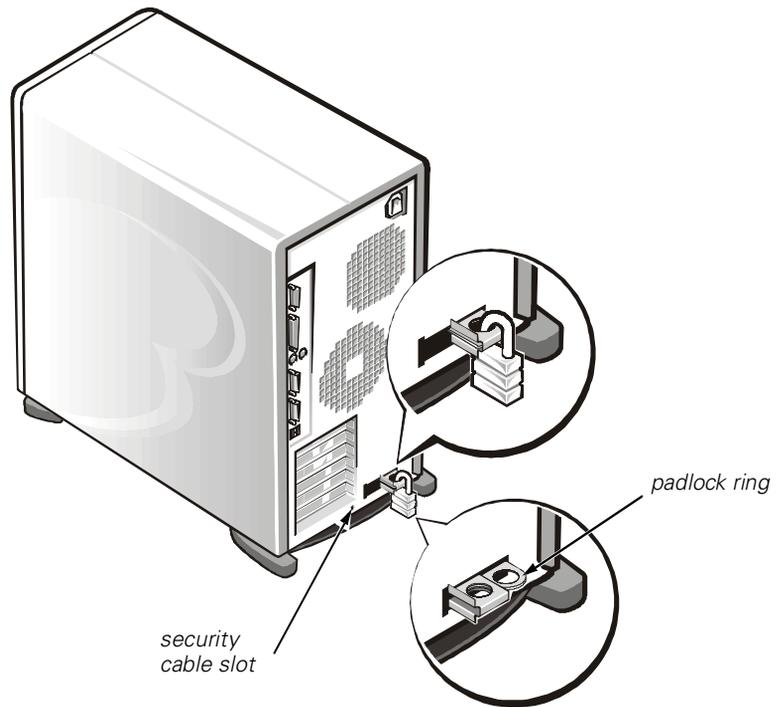

Figure 7-1. Padlock Installed
2. If you have installed a padlock through the padlock ring on the back panel (see Figure 7-1), remove the padlock.